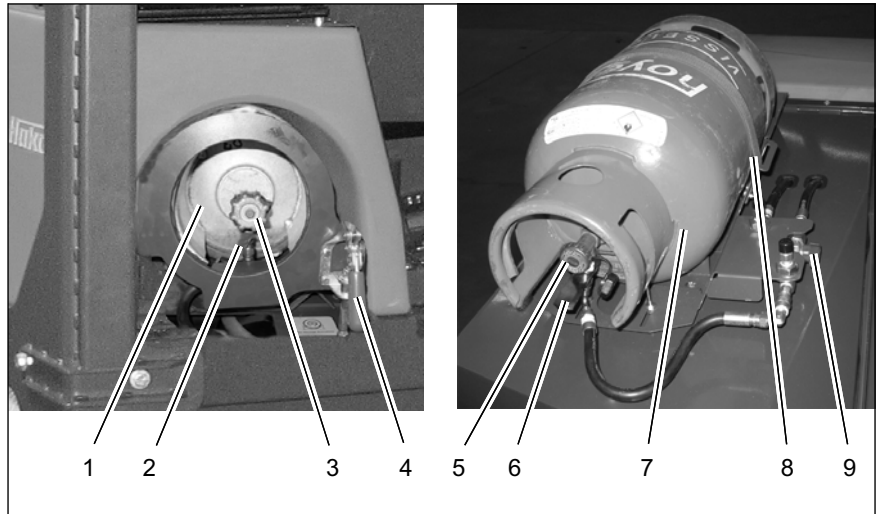

Fig.12
2. Close stop valve (Fig. 12/3) and open quick release (Fig. 12/2).
3. Open lock (Fig. 12/4) and remove the empty liquid propellant gas tank (Fig. 12/1).
2. Set change cock (Fig. 12/9) to standard liquid propellant gas tank (Fig. 13/A).
3. Close stop valve (Fig. 12/5) and open quick release (Fig. 12/6).
4. Remove fixing (Fig. 12/8) and remove empty liquid propellant gas tank (Fig. 12/7).